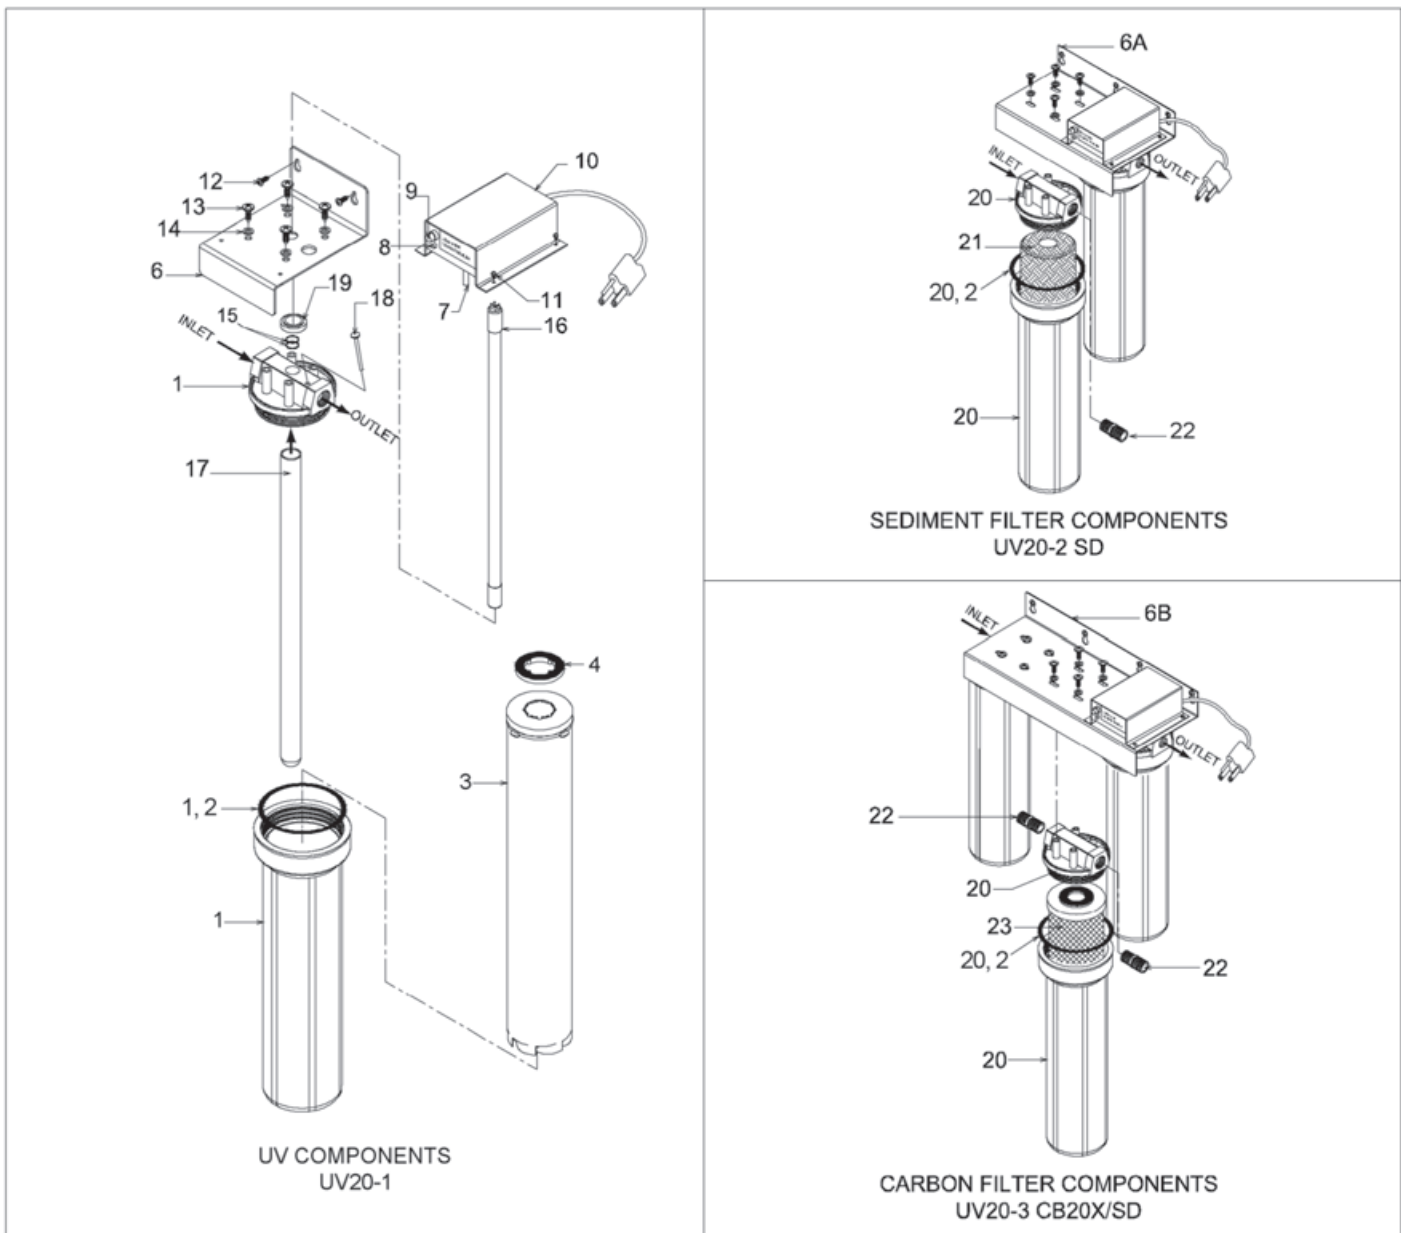

Figure 2 Exploded Schematic, PURA UV20 Series
2. Verify Stainless Steel Channeling Sleeve (Item 3) and Sleeve Gasket (Item 4) are in sump as shown in Figure 2.
CAUTION: Verify that inlet and outlet ports are connected to appropriate inlet/outlet pipes (see Figure 2).